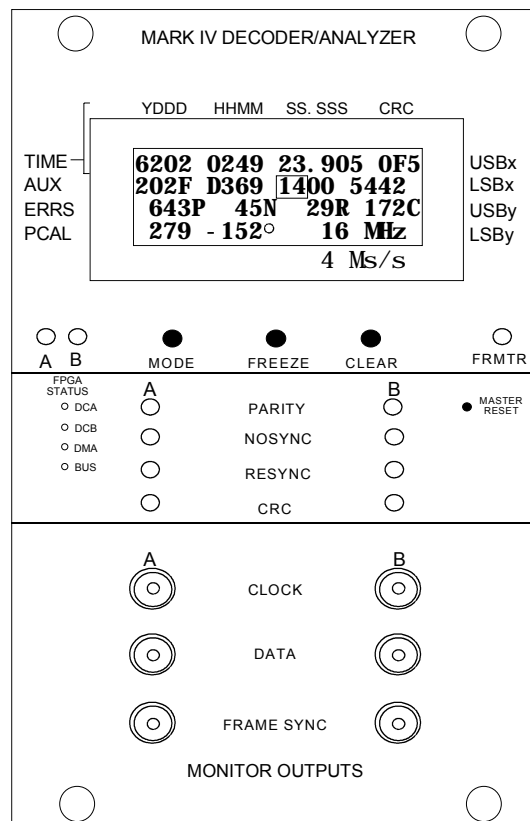

Figure 5: Mark 4 decoder front panel
The function of the Mark IV decoder is perhaps most easily understood by reference to the front-panel display in shown in Figure 5.
In the 'A' and 'B' modes, the following information is continuously displayed for the selected channel (see Figure 5):
- 'Aux Data' - displays the current decoded auxiliary-data field. The display is frozen whenever the 'Freeze' button is depressed and held; normal display resumes upon its release. When the 'Freeze' button is depressed, the 'Time' and 'Aux' data displayed are from the same tape frame header. For Mark 5A testing, the most important part of this data is the track number embedded in the auxiliary data, which in Figure 5 are the two digits enclosed by a small rectangle. Set 1 (Headstack1) tracks 2-33 display as '2-33', respectively; Set 2 (Headstack2) tracks 2-33 display as '42-73', respectively.